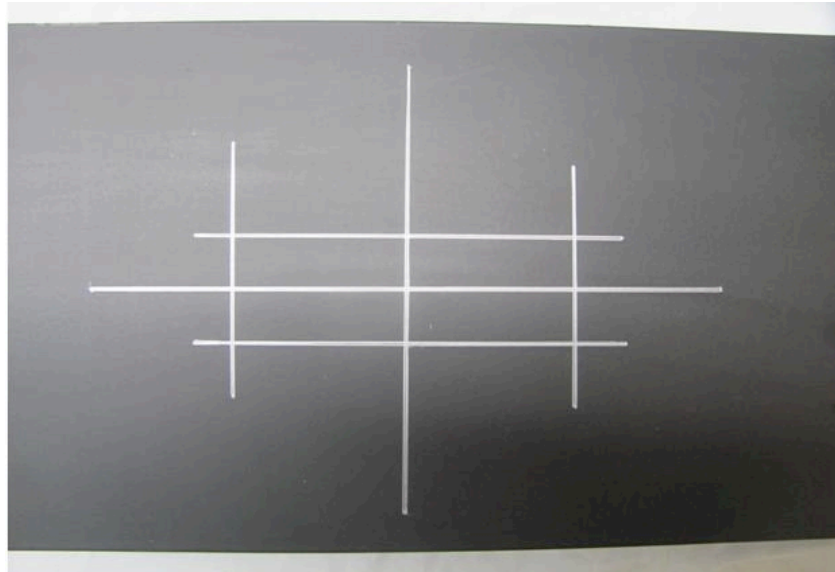

Figure 11: Tiltmeter Location Marked for 4 Tabs
3. To complete the locating sequence, make two marks at approximately 1.8 in (46 mm) on either side of the transverse centerline and two marks at 0.6 in (15 mm) above and below the longitudinal centerline as shown in Figure 11. An alternate way of marking these locations is to hold the tiltmeter in place over the two centerline marks and making small marks where the tabs will be installed, then use a T-square to complete tab marking.